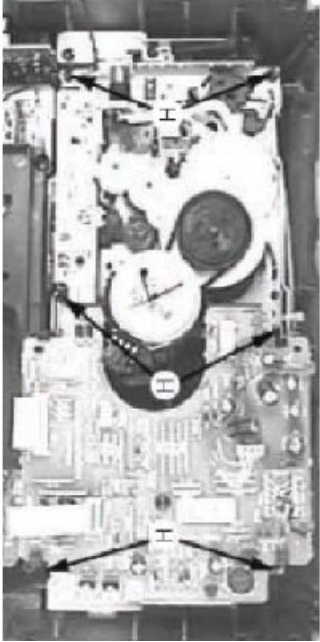

Figure 16
- 1) Loosen 6 screws H (see Figure 16) to remove the ETF Tape Module.